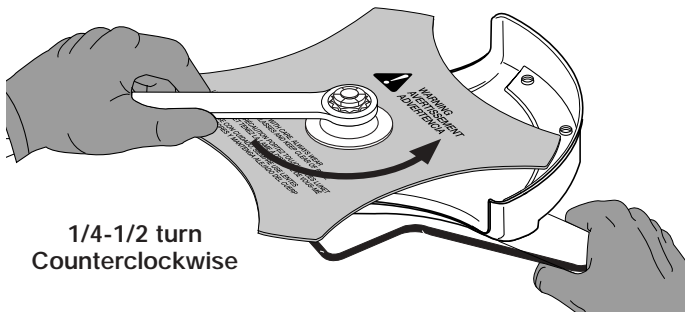

FIGURE 13
- Without a torque wrench, use a 5/8 inch closed-end or socket wrench, turning the nut until the blade retainer is snug against the shaft bushing. Make sure that the blade is installed correctly, then rotate the nut an additional 1/4 to 1/2 turn counterclockwise, Figure 13.